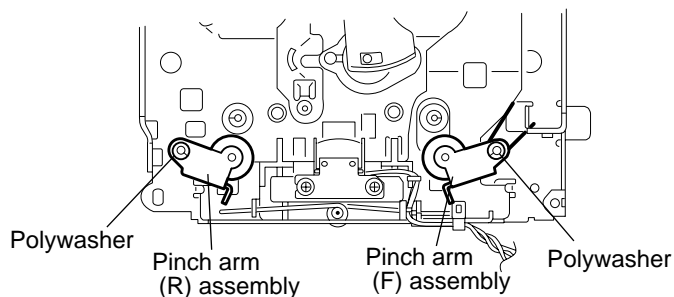

Fig.11
■ Removing the pinch arm (F) assembly (See Fig.11 and 12)
1. Remove the polywasher and pull out the pinch arm (F) assembly.
■ Removing the pinch arm (R) assembly (See Fig.11 and 13)
1. Remove the polywasher and pull out the pinch arm (R) assembly.